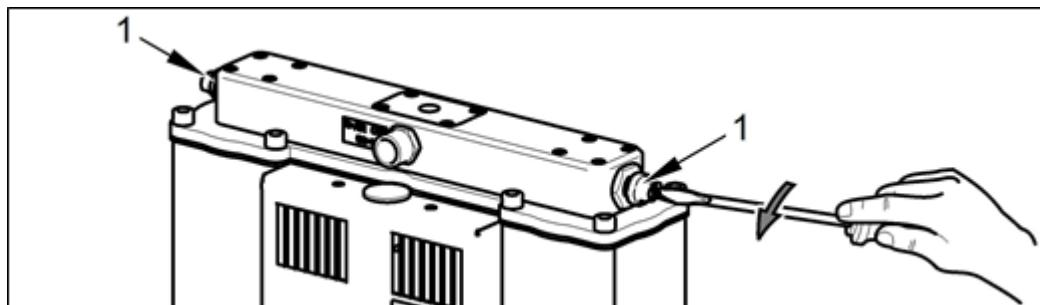

Fig. 12: Venting pressure from the dryer chambers
- Open the vent plugs on the outlet module on the equipment (Fig. 12).